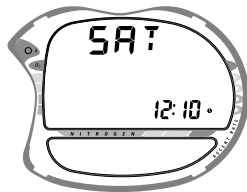

Fig. 69 - Time to Desaturate
- The countdown starts 10 minutes after surfacing at 23:50 (hr:min) maximum and counts down to 0:00 (hr:min). The Time to Desaturate Countdown displays the graphic **SAT** and a counter (Fig. 69) that provides calculated time for tissue desaturation (release of nitrogen loading) at sea level.